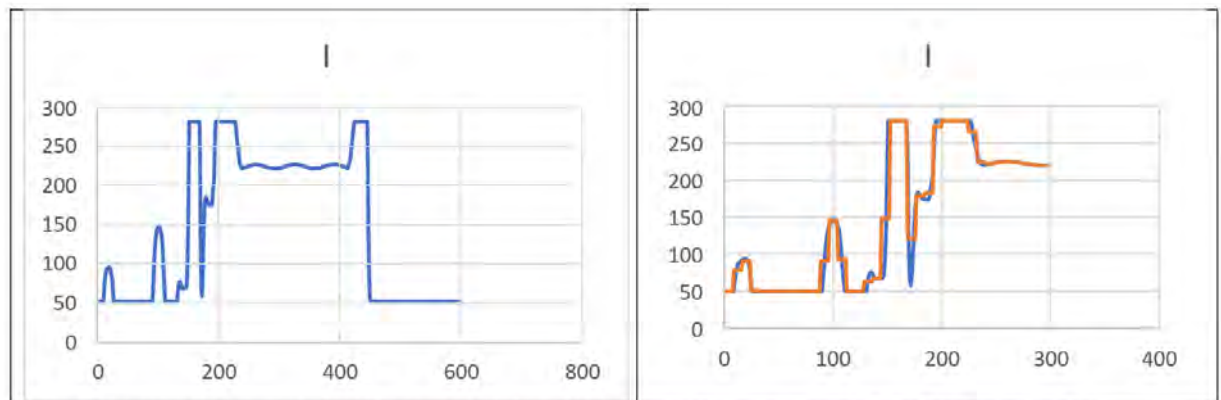

Figure 4: The estimated current using the equivalent diameter (left) and the scan current for axial scan mode (right).
5. Adjust the mA based on the scan mode. Figure 4 shows the estimated mA as well as the adjusted mA for the axial scan mode.